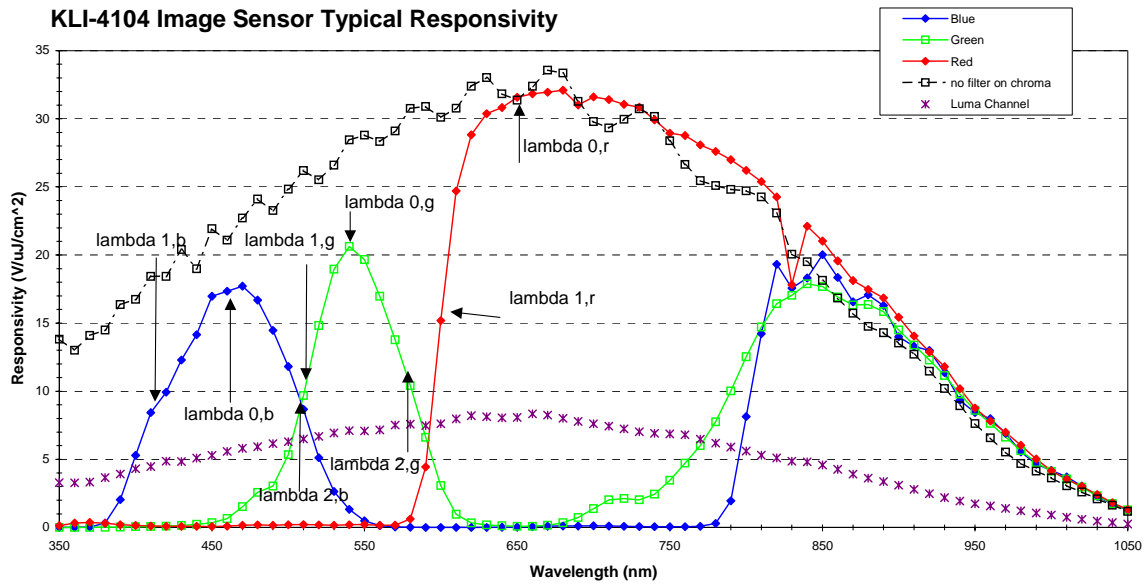

Figure 11: Typical Responsivity
1. A filter set has been implemented for a series of quad-linear image sensors optimized for high sensitivity color scanning. Values for the various nominal wavelength positions are shown below with corresponding tolerances for responsivity and wavelength as indicated for Color Image Sensors. See Figure 11 for clarification of parameters.
3. Values for gauging filter performance are determined from Figure 11. The center (or peak) transmission wavelength is specified as λ_0 , and the 50% points are given as λ_1 and λ_2 , corresponding to the near and far wavelength sides of the filter pass band.